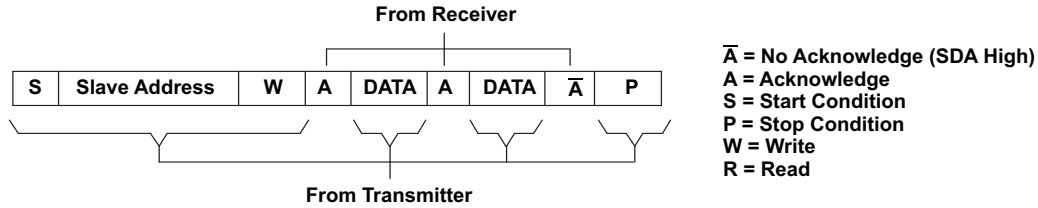
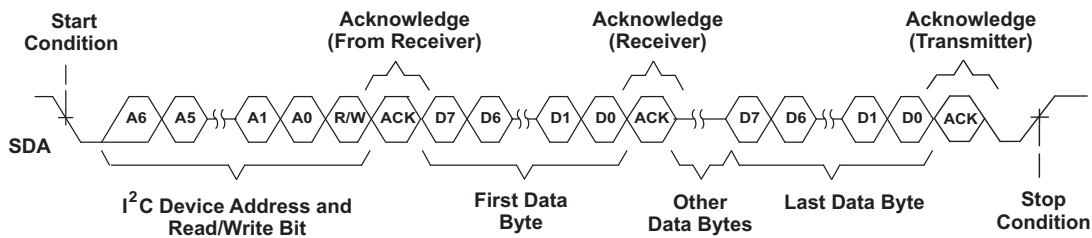
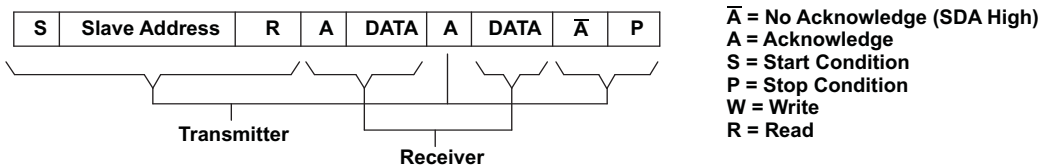
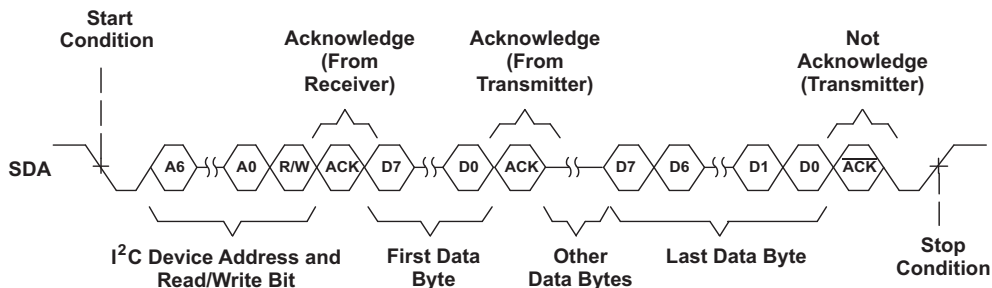

Figure 9. I²C Write Cycle
Figure 10. Multiple Byte Write Transfer
Figure 11. I²C Read Cycle
Figure 12. Multiple Byte Read Transfer
During a write cycle, the transmitting device must not drive the SDA signal line during the acknowledge cycle, so that the receiving device may drive the SDA signal low. After each byte transfer following the address byte, the receiving device pulls the SDA line low for one SCL clock cycle. A stop condition is initiated by the transmitting device after the last byte is transferred. Figure 9 and Figure 10 show an example of a write cycle. Note that the THS7347 does not allow multiple write transfers to occur. See the example, Writing to the THS7347, in WRITE AND READ EXAMPLES for more information.
During a read cycle, the slave receiver acknowledges the initial address byte if it decodes the address as its address. Following this initial acknowledge by the slave, the master device becomes a receiver and acknowledges data bytes sent by the slave. When the master has received all of the requested data bytes from the slave, the not acknowledge (\bar{A}) condition is initiated by the master by keeping the SDA signal high just before it asserts the stop (P) condition. This sequence terminates a read cycle, as shown in Figure 11 and Figure 12. Note that the THS7347 does not allow multiple read transfers to occur. See the example, Reading from the THS7347, in WRITE AND READ EXAMPLES for more information.
The THS7347 operates using only a single-byte transfer protocol similar to that illustrated in Figure 9 and Figure 11. The internal subaddress registers and the functionality of each are given in Table 2. When writing to the device, it is required to send one byte of data to the corresponding internal subaddress. If control of all three channels is desired, then the master must cycle through all the subaddresses (channels) one at a time; see the example, **Writing to the THS7347** (in WRITE AND READ EXAMPLES) for the proper procedure of writing to the THS7347.